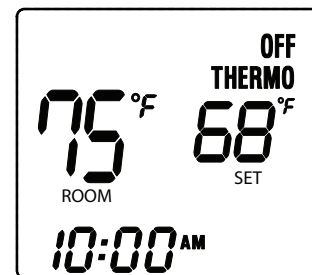

Fig. 6 Thermo Mode
Step 2: Press the MODE button a second time to put the to put the system in THERMO mode (Fig. 6).